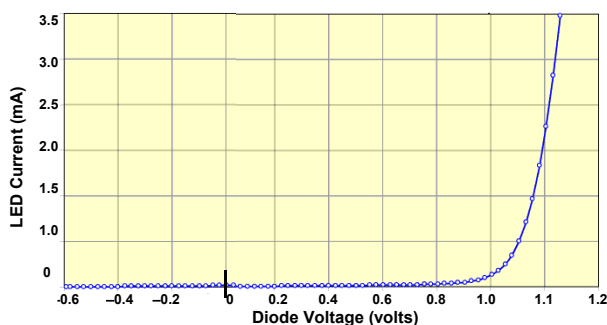

Figure 1: Example of a V-I curve for a nonlinear two terminal device. Your LED curves will have a similar shape but will numerically be different.
The light emitting diode (LED) has a nonlinear voltage vs. current relation. Figure 1 is an example V-I curve for a nonlinear device. See the appendix for more detail on the model of an LED. In this lab you measure this relationship and plot it. To do this you will use the benchtop programmable power supply, a voltmeter, and an ammeter.
9. Make a plot that shows the curves for the three LEDs on the same axes. The horizontal axis will be voltage, the vertical will be current. Figure 1 is an example of the layout. Be sure to label your axes and use a legend that indicates what each curve represents.